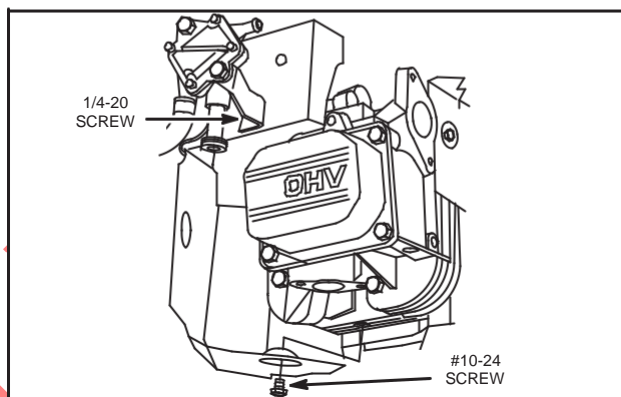

Fig. 19 – Install Cylinder Shields
1. Install No. 1 cylinder shield and fuel pump assembly, Fig. 19.